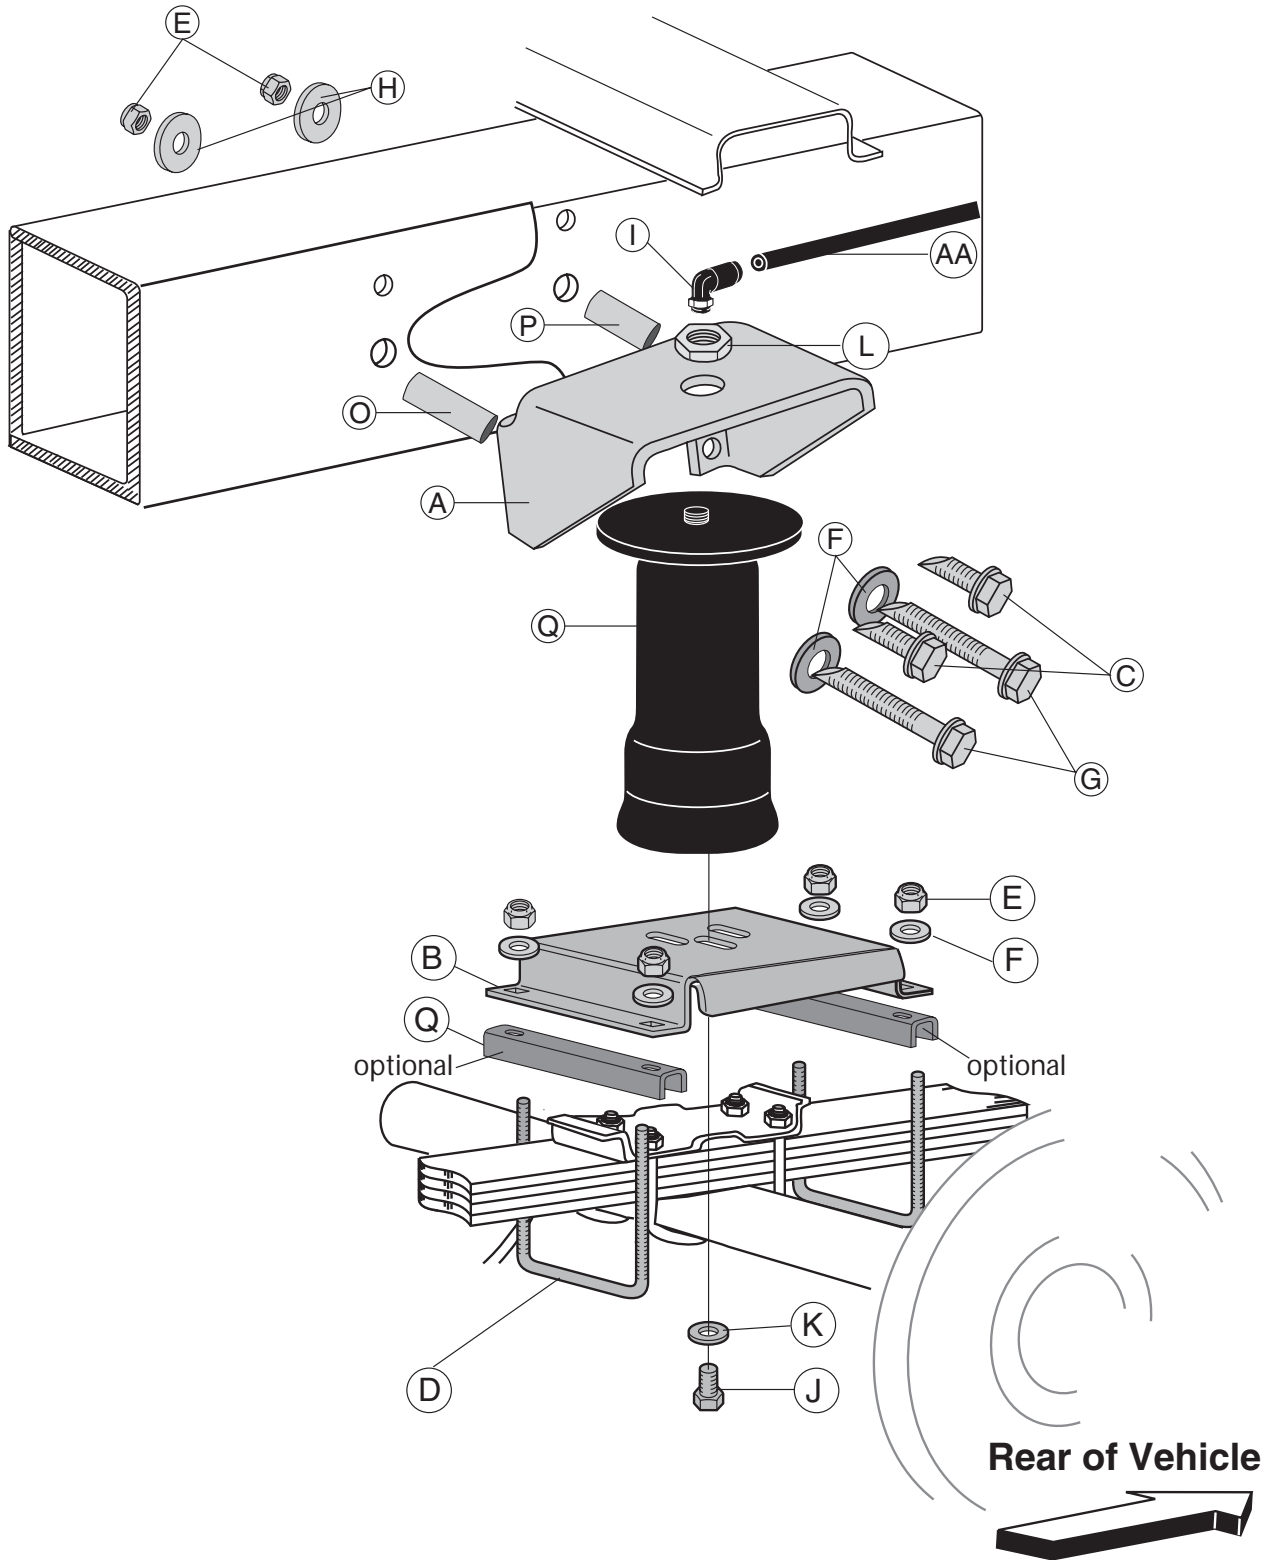

Figure 1
(\* not shown in Figure 1)
2. Use the optional spacers (Q) for spacing the lower bracket up if the lower bracket hits on the stock U-bolts (Figure 1).
*NOTE: The front leg of the upper bracket will mount on the raised front portion of the frame and the back leg of the upper bracket will mount on the recessed, rear portion of the frame (Figure 1).*
5. The previously drilled 3/8" holes on the outside portion of the frame will need to be drilled out to 1/2" to provide enough room for the frame inserts to be installed into the frame (Figure 1).
6. Attach the upper bracket by inserting two 3/8 - 16 x 4" bolts (with flat washers) through the lower holes in the bracket. Install the long frame insert (O) on the front lower bolt. Install the shorter insert (P) onto the rear lower bolt (Figure 1).
1. Install 90 degree air swivel fitting (I) to the top of the air spring (Q) (Figure 1). Use a  $\frac{7}{16}$ " open end wrench being careful to tighten on the metal hex nut only. Tighten 1 and  $\frac{1}{2}$  turns. Do not over tighten.
2. Guide the fitting through the center mounting hole in the upper bracket (Figure 1).
3. Attach the air spring to the lower bracket using flat washer (K) and bolt (J). Leave loose for later adjustment.
4. Install a nylon nut (L) over the air fitting and onto the upper threadpost of the air spring (Figure 1). Tighten to 4 ft/lbs.